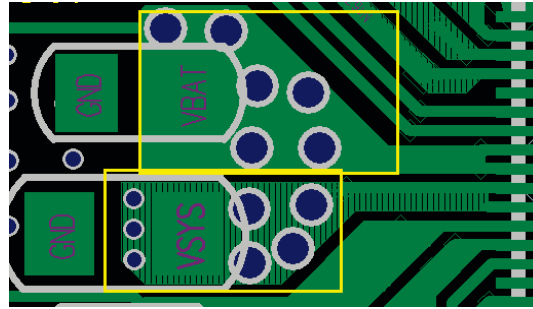

Figure 4-66 VBAT Power Vias
- The traces of VBAT+ and VCC_SYS need to be considered 3-5 A load-current capability, could not have too much voltage drop, so the power vias need enough large aperture and enough more quantity. The Q23008 in Figure 4-66 is also used to reduce the internal power-path impedance of RK818-3, which can make the main power circuit impedance smaller, give full play to the battery performance.